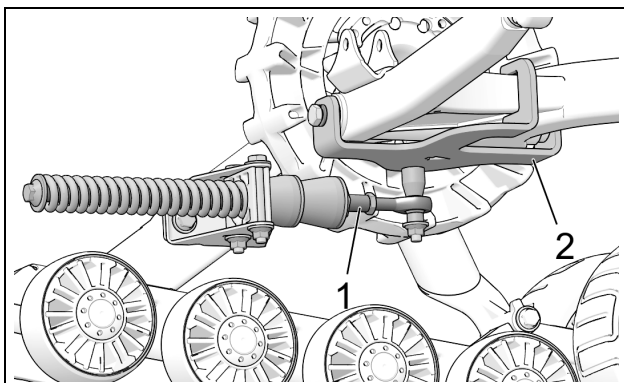

Figure 15
- Stabilizing arm (1) must be attached to rear anchor bracket (2) installed on vehicle. See Figure 15.